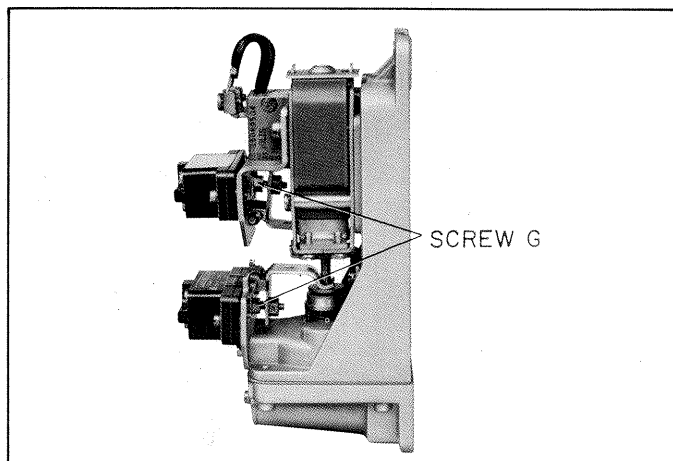

Figure 2 - Typical relay (side view)
The timing contacts should operate when the timing stem is approximately $\frac{3}{32}$ of an inch from the top of its stroke. If not, screw G (Figure 2) should be readjusted until $\frac{3}{32}$ of an inch operation point is obtained. (See ADJUSTMENT OF CONTACTS). The operation point of the auxiliary instantaneous contact unit is adjusted in the same manner.
Adjust screws G (Figure 2) according to each of the conditions described in the preceding instructions. The self-locking nut will hold the screw in place.
3. Adjust screw G, Figure 2, if necessary.